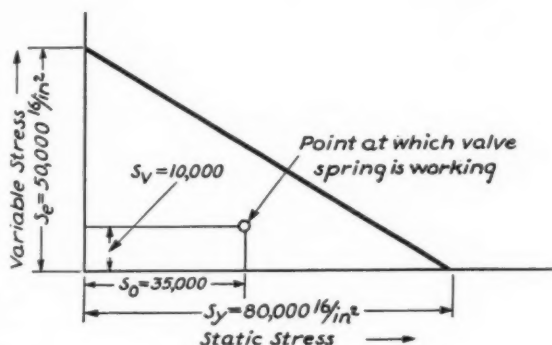

Fig. 11—Assumed endurance diagram of valve spring
reversed torsion of 50,000 pounds per square inch and a yield point in torsion\*\* of 80,000 pounds per square inch, we obtain a diagram as shown in Fig. 11. The point where this valve spring is operating will be represented by the point  $P$  having an abscissa of 35,000 pounds per square inch and an ordinate of 10,000 pounds per square inch. According to equation (1), the factor of safety as defined will be